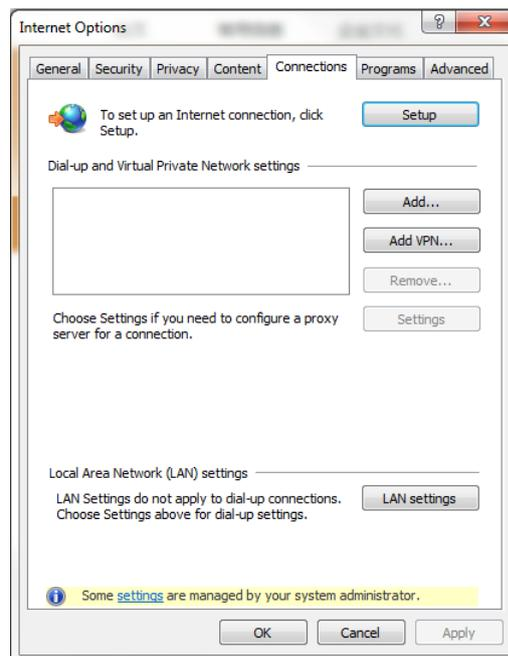

Figure 3-26 Select Connection tab
1) Double-click the IE icon to run the software, click on the menu **Tool** → **Internet Options**, then select the **Connections** tab to pop up the page as shown in the Figure 3-26.